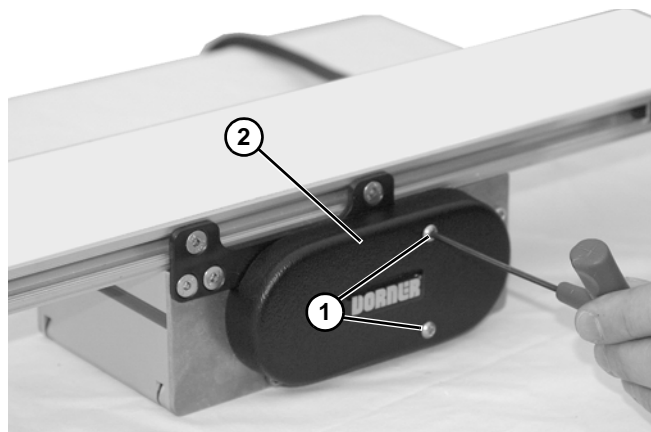

Figure 35
15. Install cover (Figure 35, item 2) with two screws (Figure 35, item 1).